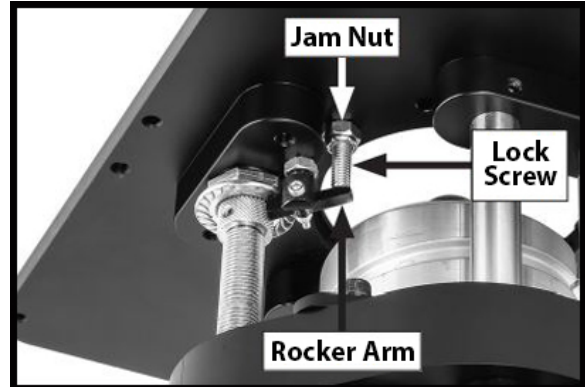

Figure 49
5. Tighten the lock screw jam nut beneath the insert plate against the plate to secure its position. (Fig.49)